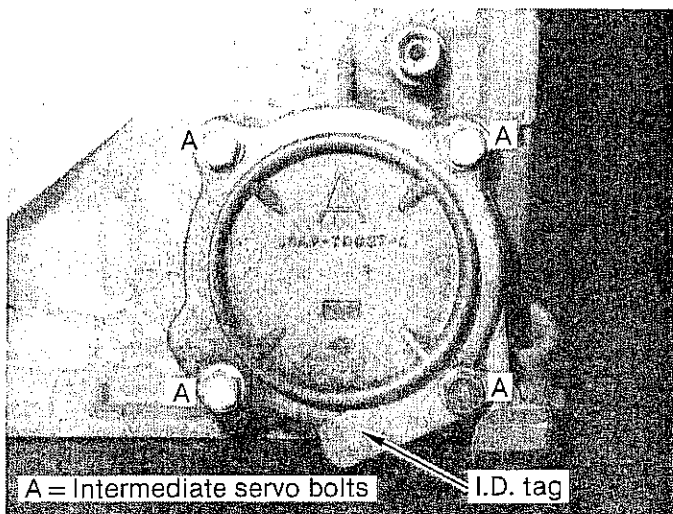

FIGURE 25
STEP 16. Remove four intermediate servo bolts. (See Fig. 25) Remove servo assembly by tapping on servo pin inside case gently with a hammer. Hold your hand over the servo cover so it doesn't fly out and splatter oil all over. Remove servo cover, piston and spring. Remove and discard gasket and piston inner and outer seals. Set the servo aside.